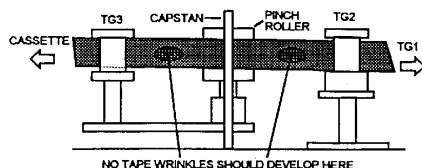

Figure 10
2. If the tape is wrinkled before and / or after the capstan, the T2 guide height needs to be adjusted (see Figure 10).